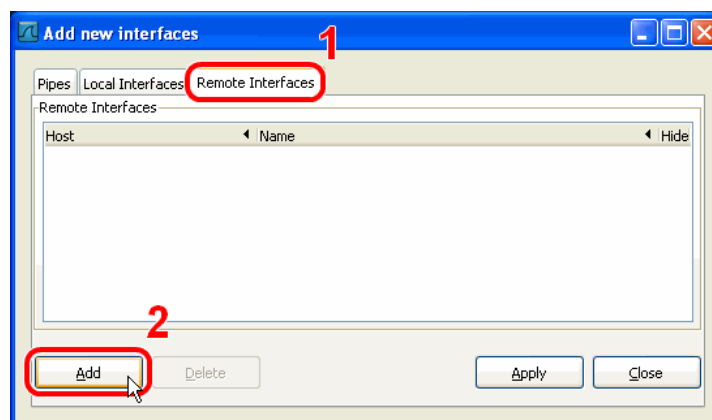

Figure 136: Wireshark Add New Interfaces Dialog.
3. Select the **Remote Interfaces** tab and click **Add** as shown in Figure 136.